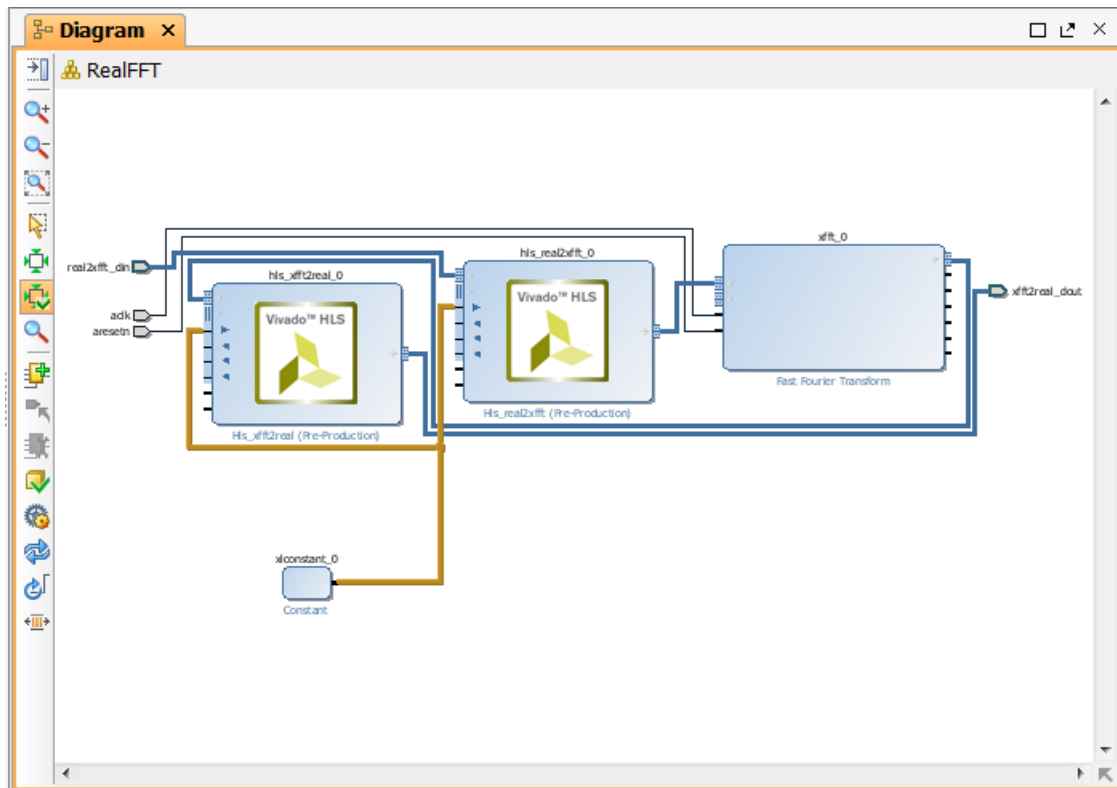

Figure 9-22: Connect AP_START to Constant
- g. Connect `ap_start` in both HLS blocks to the Constant block (Figure 9-22).